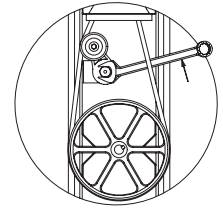
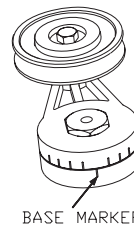
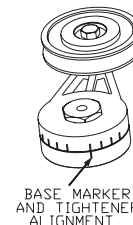

Figure 5
Figure 6
Figure 7
14. Place a wrench on the hex nut in the belt-tightener body as shown in Figure 5 and a wrench on the belt-tightener mounting fastener.
15. Using the wrench on the belt-tightener body, apply pressure in the appropriate direction (see Figure 5) until the belt is properly tensioned. Note: The belt-tightener body has marks on it as shown in Figure 6 representing degrees. The proper alignment after tightening the mounting bolt is shown in Figure 7.